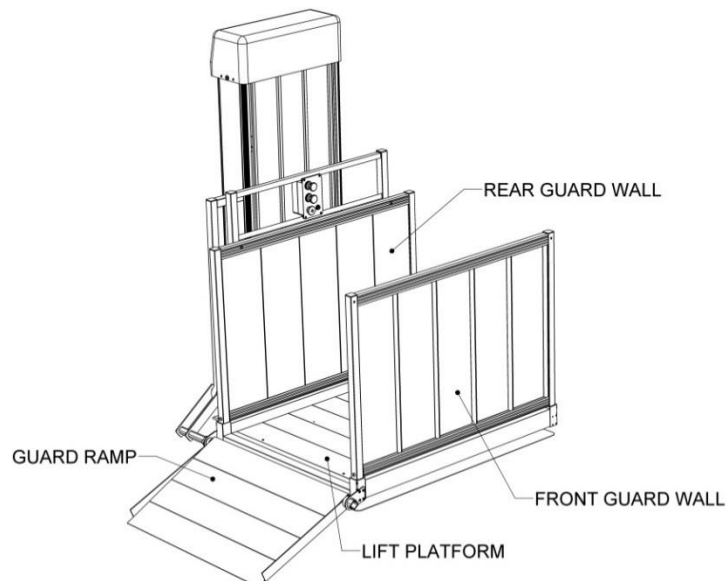

FIG. 9.2
1. The Platform Safety Rail can be installed on either the front or rear platform guard wall when used with a Straight Platform (FIG. 9.2). Before installing the Platform Safety Rail determine which side will be more convenient for the intended occupant's particular situation. When used with a 90° Turn Platform, the Platform Safety Rail can only be installed on the rear guard wall.